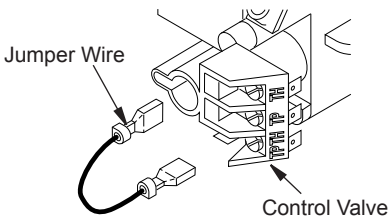
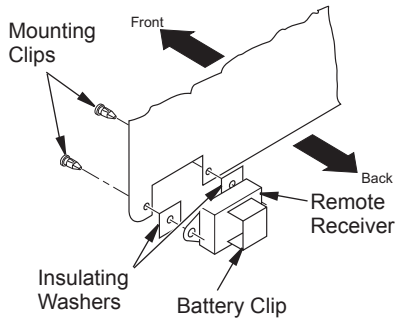

Figure 1 - Disconnecting Wires from Control Valve
Figure 2 - Installing Remote Receiver
1. Disconnect switch wires from the control valve. Some units will have an ON/OFF switch with switch plate that is connected to the control valve. Other units will have a jumper wire that will need to be removed from the control valve (see Figure 1).
2. Remove screws and switch plate as shown in Figure 1. Discard after removing.
3. Install remote receiver unit onto gas log heater base using clips (2) and insulating washers provided.
4. Push clips firmly into place (see Figure 2).